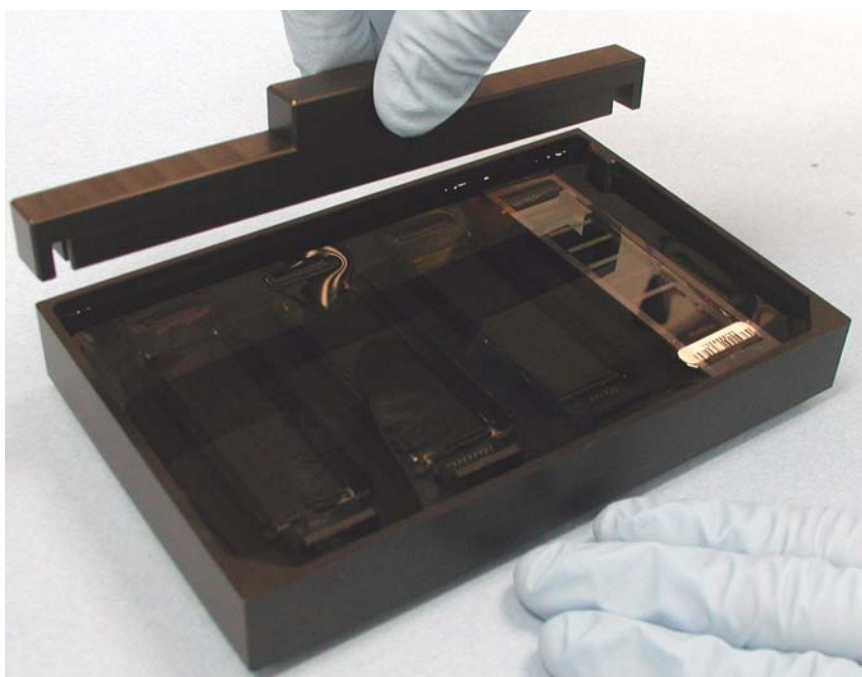

Figure 49 Placing Alignment Bar onto Alignment Fixture
4. Place the Alignment Bar onto the Alignment Fixture (Figure 49). The groove in the Alignment bar should fit over the metal tab on the Alignment Fixture.